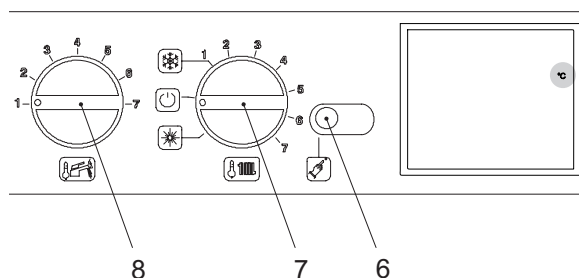

Figure 5.3
- position 1 for °C unit (figure 5.3)